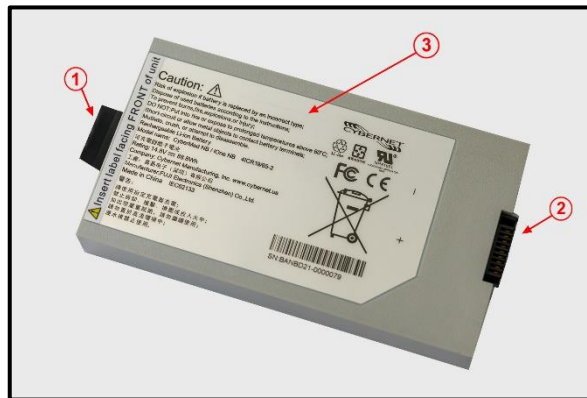

Figure 4. Lithium Ion Battery Pack
- Figure 4. Lithium Ion Battery Pack 12
Prior to assembling the main system, it is necessary to install the rechargeable Lithium Ion batteries that are packed separately. All three batteries are all identical and can easily be replaced by the user in the event of a failure. As shown below in Figure 4, there are three important parts of the battery that should be identified prior to installation: